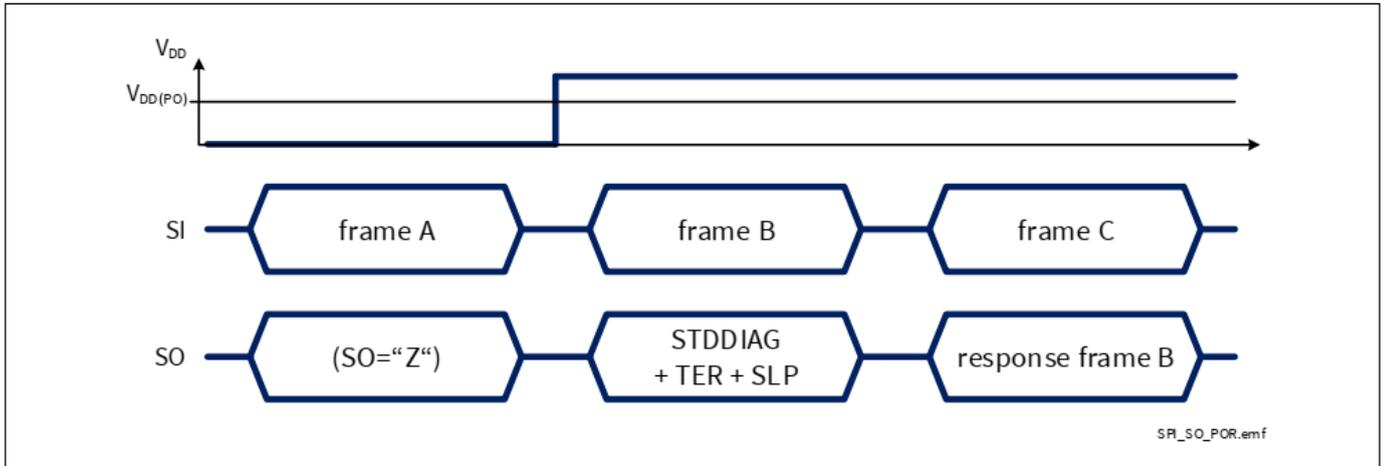

Figure 44 SPI response after coming out of Power-On reset at V_{DD}
- 当 BTS71220-4ESE 数字电源不满足上电复位条件时，如图 44